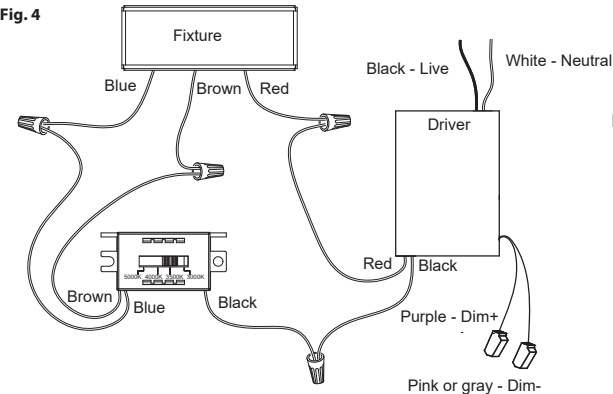

Fig. 3
8. Secure the safety cord to the bracket on the mounting backplate to hang the fixture temporarily in place and aid installation. Connect the driver input/output wires with junction box wires as shown in Fig. 3, making sure that all wire connectors (A/B) are secured. If your outlet box has a green or bare copper ground wire, connect the fixture's ground wire to it. Otherwise, connect the fixture's ground wire directly to the mounting plate using the green screw provided. After wires are connected, tuck them carefully inside the junction box.